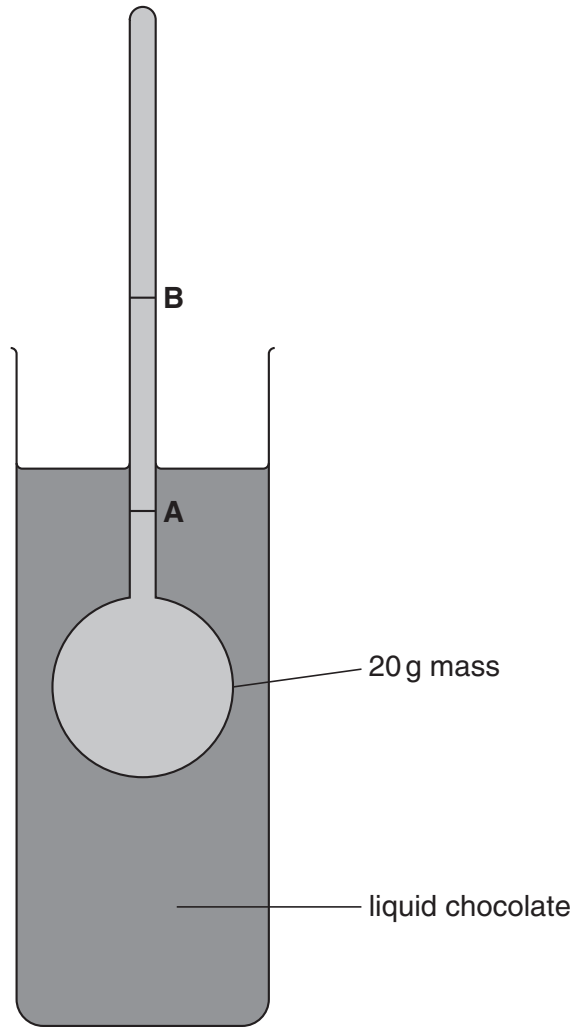

Fig. 1.4
- (h) Some students decided to compare the viscosities of two types of chocolate. Liquid chocolate at 40 °C was placed in a tall beaker. A ball of mass 20g was attached to a scale and added to the liquid chocolate as shown in Fig. 1.4.